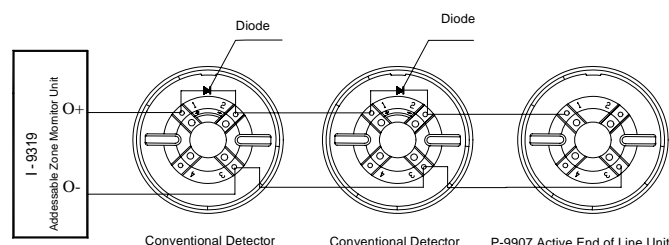

Fig. 4
1. When the unit connects with conventional detector in series, the detector base should connect with an 1N5819 diode, and P-9907 must be connected to the output end. P-9907 can also be used as the base of a conventional detector. System composition is shown in Fig. 4.